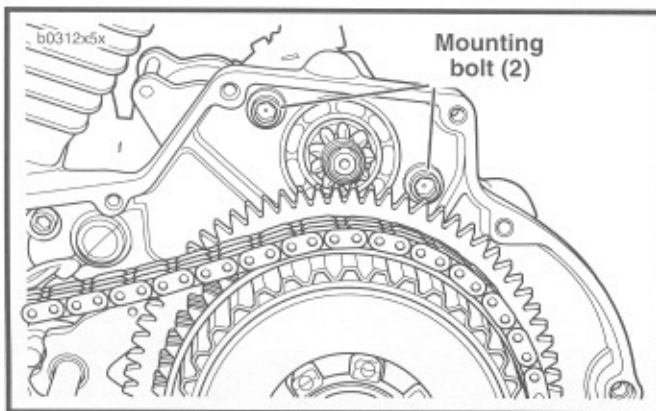

Figure 5-5. Starter Mounting
2. Remove the two starter mounting bolts and washers. See Figure 5-5.
3. See Figure 5-5. Install the two starter mounting bolts and washers. Tighten mounting bolts to 13-20 ft-lbs (18-27 Nm) torque.